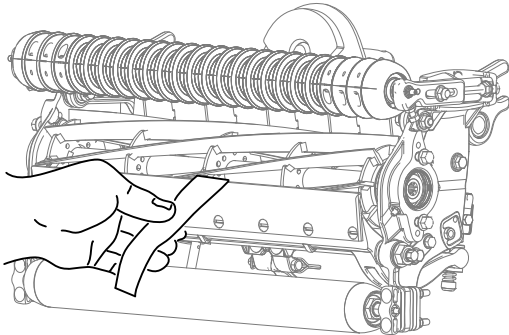

Figure 7
2. Test the cutting performance by inserting a long strip of cutting performance paper (Toro Part 125-5610) between the reel and the bedknife, perpendicular to the bedknife (Figure 7). Slowly rotate the reel forward; it should cut the paper.